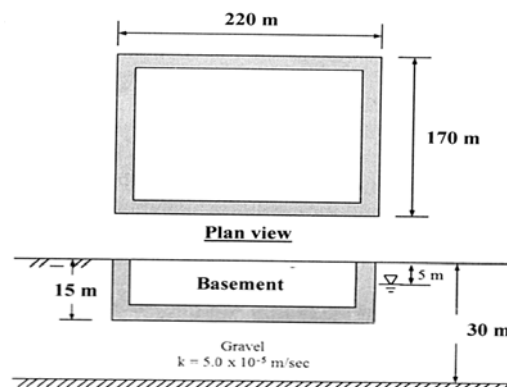

Figure 12 (b) (i)
- (b) (i) A job site requires an excavation of a rectangular area (220 m × 170 m) to a depth of 15m, as shown in Figure 12 (b) (i). The existing groundwater table is at 5m. Below the ground surface is 30 m thick gravel with a permeability of 5.0×10^{-5} m/s, which is underlain by bedrock. The groundwater table should be lowered to 1.5 m below the bottom of the excavation. Deep wells are used to dewater the site. Calculate the total required discharge. If 200 mm diameter deep wells are used, how many deep wells are required? (10)